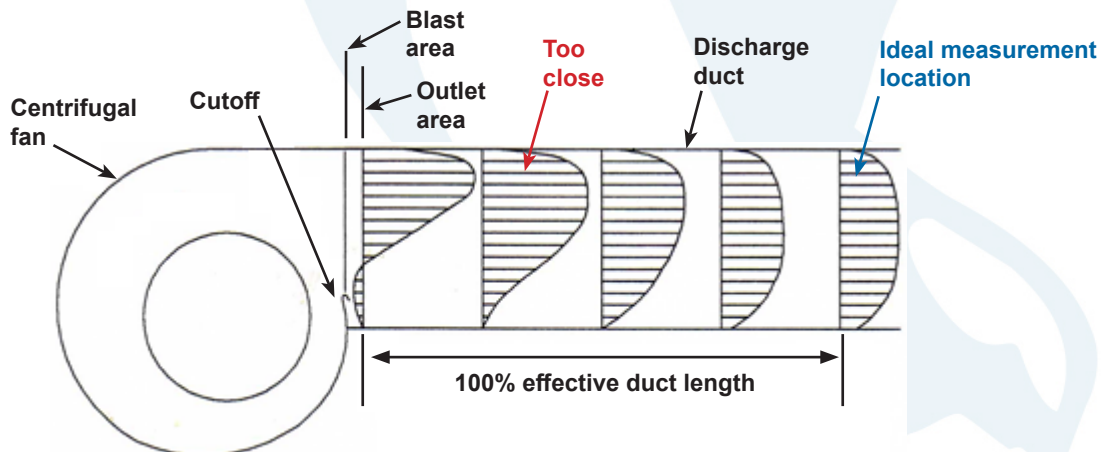

Figure 9 Air Flow at an Ideal Air Velocity Measurement Location
- If the air velocity readings vary greatly from one side of the duct to the other, then the measurement point is likely too close to an elbow or other flow disruption to obtain an accurate reading. Attempt additional readings further away from the disruption for accurate results. See Figure 9 for a diagram of an ideal air velocity measurement location.